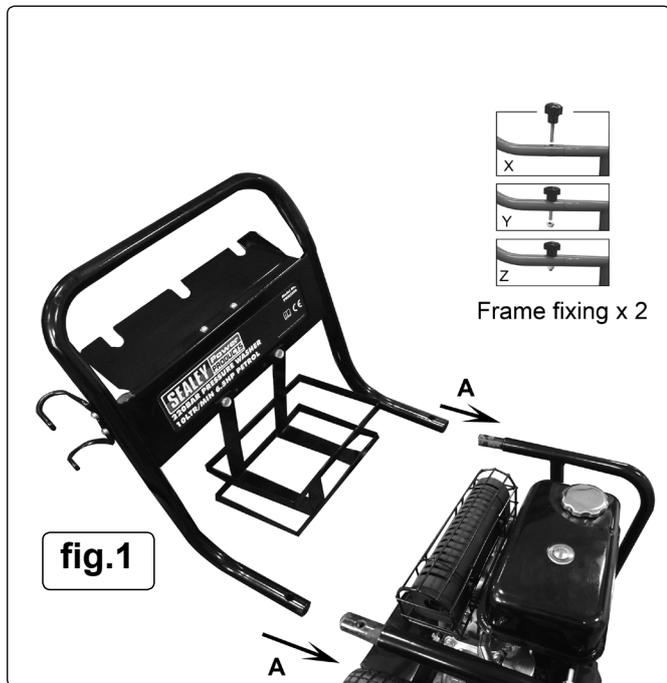

fig.1
- 3.1.1. Attach the upper frame to the lower frame by pushing it onto the spigots protruding from the lower frame as indicated at 'A' in fig.1 above. Ensure that the holes in the ends of the upper frame align with the holes in the spigots. Secure the two parts of the frame together by screwing a frame fixing through each joint as indicated in the inset pictures (fig.1X&Y). Tighten both fixings by hand using the black knobs. Lock each fixing using a nyloc nut applied to the thread protruding from the underside of each joint. (fig.1Z)